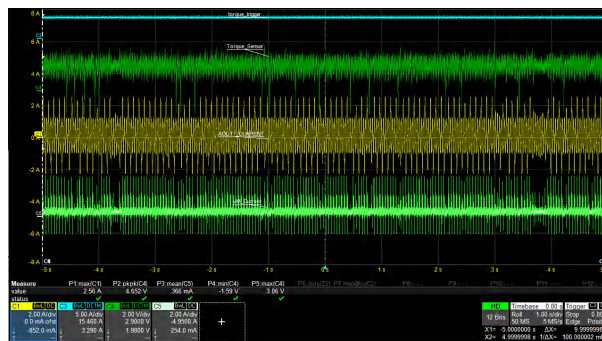

Figure 2-21. Current Waveform With  $K_P = 7$
- If  $K_P$  is increased further, the oscillations becomes larger. The system becomes unstable and may even oscillate out of control, as shown in Figure 2-21.